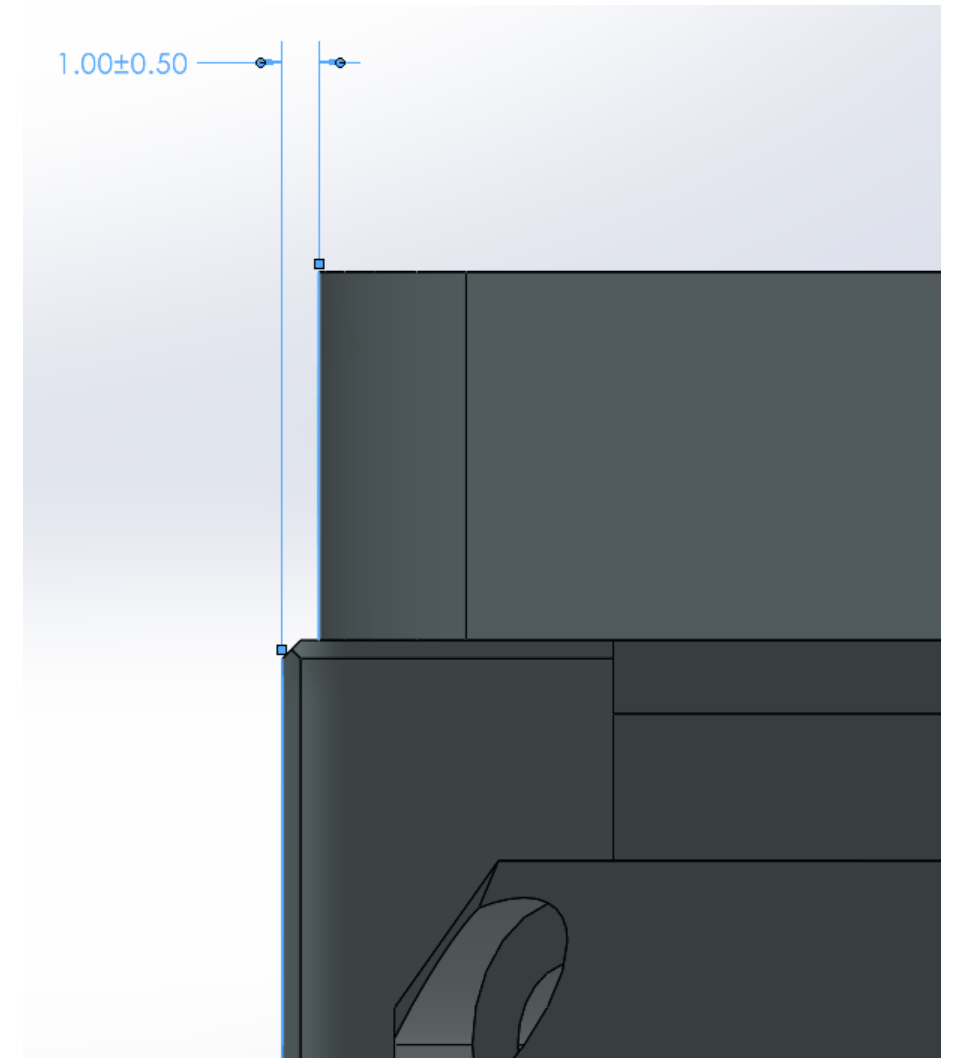

Figure 11: 1mm discrepancy on laser head mating face
- Issue is due to laser head not being flush with fixture (see Figure 11)